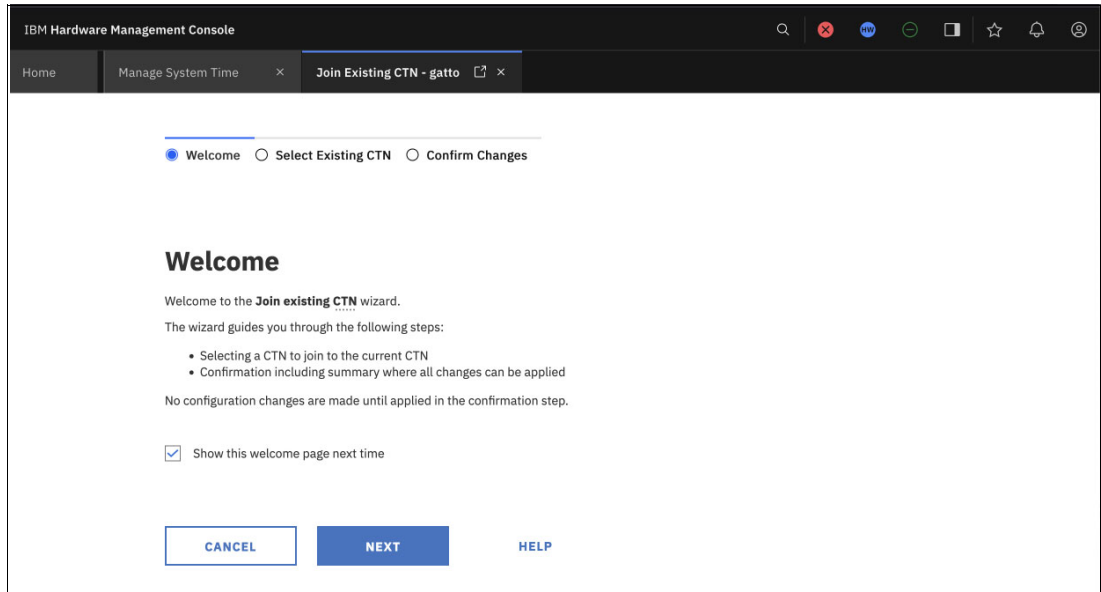

Figure 5-2 Join Existing CTN menu
2. From the **Welcome** menu (Figure 5-2 on page 113), click **NEXT**.